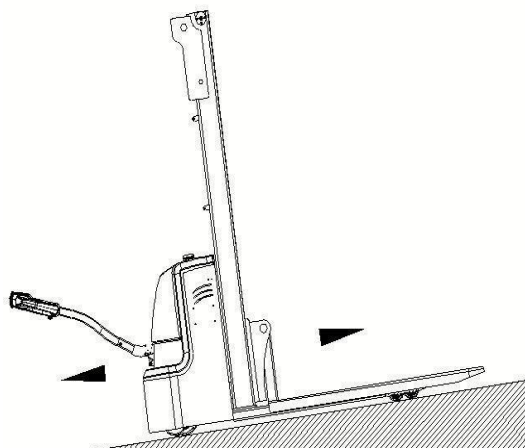

Fig. 6 Goods facing up
- As shown in Figure 6, use special binding straps for lifting to fix one side to the stacker body, fork and gantry, and the other side to the transport stacker.
For example, in Figure 6, the distance c from the center of gravity of a cargo is 20 Inches. The maximum lifting height H is 138 Inches and the maximum load capacity Q is 1320 LBS.